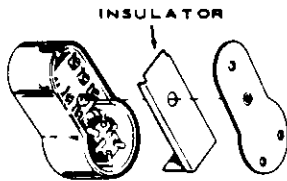

Figure 3. Terminal Panel Insulator.
13. Insert Terminal Panel Insulator, as shown in Figure 3.